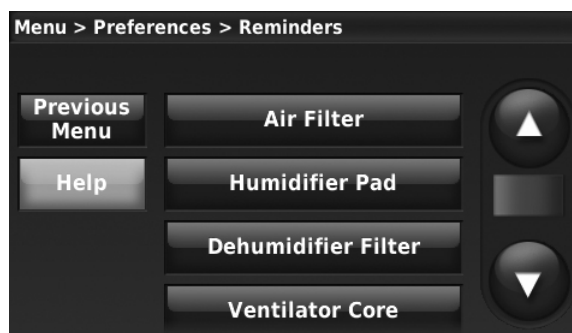

Fig. 259.
2. Press Reminders. Fig. 259 is displayed.